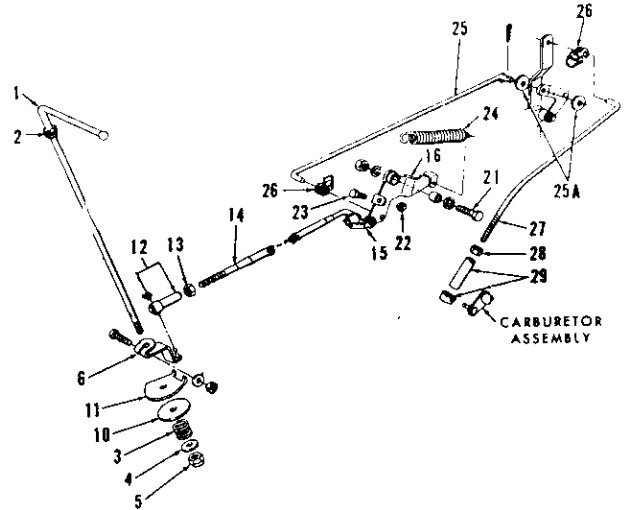

Fig. 151—Drawing showing typical throttle and governor linkage used on late model 2000, 3000 and 4000.
165. Refer to Fig. 151 for schematic view of linkage and to Fig. 152 for alternate bellcranks which may be used on 3 cylinder units. First make sure linkage is free without excessive looseness. Move hand throttle to high speed position and adjust governor rod (4) if necessary, to fully open carburetor throttle. Adjust length of throttle rod (L) to 11 25/32 inches if bellcrank is